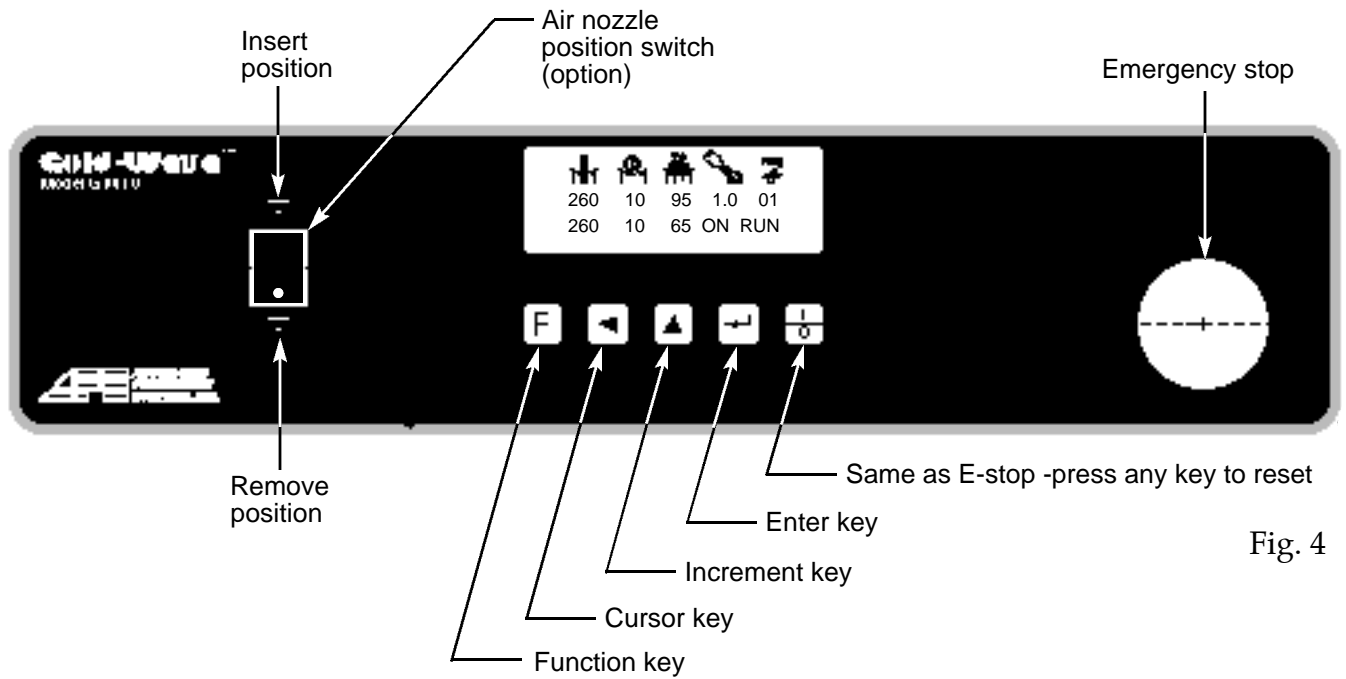

Fig. 4
1. When position switch is in INSERT position the wave will activate as long as the foot pedal is pressed. (Refer to Fig. 4)
2. When position switch is in REMOVE position the optional blow through will activate as long as the foot pedal is pressed. (Refer to Fig. 4)
- D. Ensure position switch is in Remove (down) position (see fig. 4)
1. Press position switch to Insert (up) position (see fig. 4)